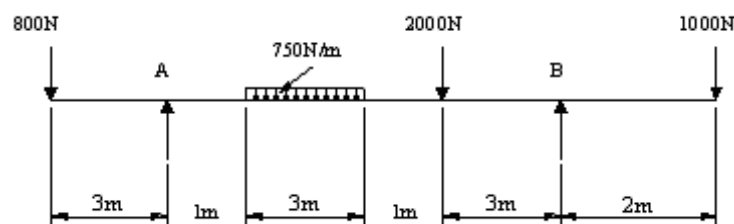

Figure 3
3. Draw the SF and BM Diagrams for the beam loaded as shown in the Figure3.